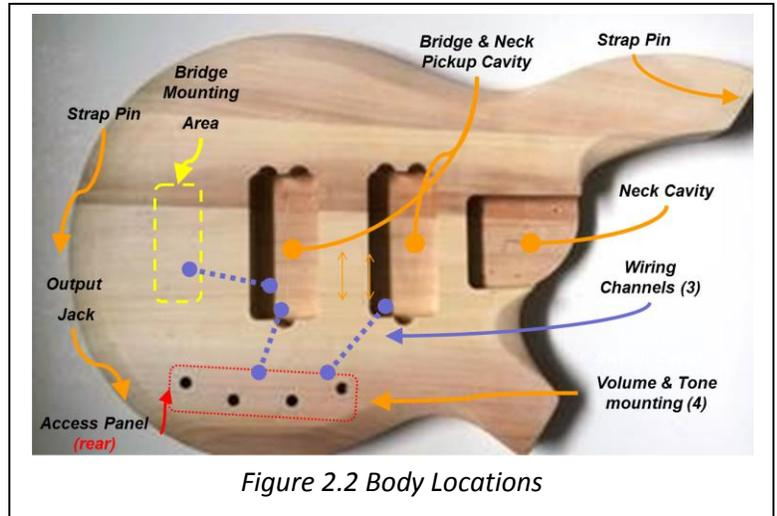

Figure 2.2 Body Locations
1. Check Neck cavity on the Body for pre-drilled (4) mounting holes (Figure 2.2);
2. Carefully slide the Pickguard under the neck and adjust the Pickguard so that it is snug against the neck while centered/aligned with the pickup cavities (Figure 2.2).
1. Check the Bridge mounting area (yellow area in Figure 2.2) for six Bridge mounting holes.
1. Check the bridge mounting area (Figure 2.2) for the Bridge ground wire channel to the Bridge pickup cavity.
1. Check for pre-drilled holes for the Strap Pins (item 11 on the material list), reference Figure 2.2.